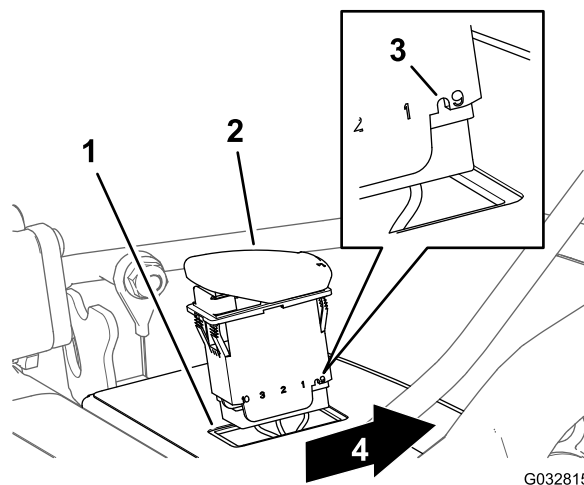

Figure 18
4. Align the switch so that the notch in the body of the switch is toward the front of the control panel (Figure 18).
5. Insert the switch into the opening in the control panel until the switch snaps securely into the panel (Figure 18).